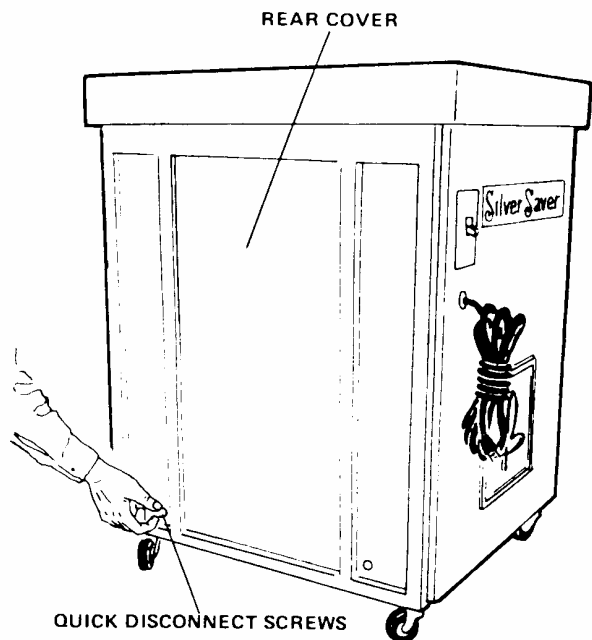

Figure 2-3. Removing Rear Cover (Model BB2016)
4. **MODELS BB914 and BB2016.** To remove rear cover, push in and turn quick disconnect screws 1/4 turn counterclockwise. (See fig. 2-3.)